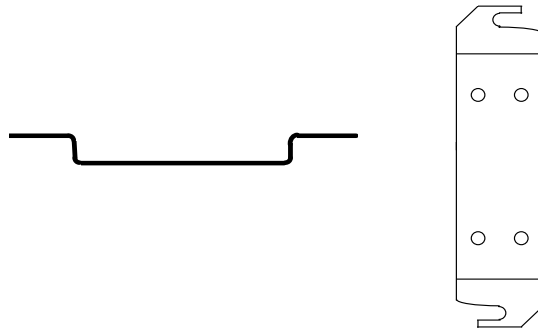

Figure 3-13
- i. Attach the mounting bracket between the base of the CG-6P lampchanger and CG-181 flasher with four 10-32x1" screws supplied so that the dip in the bracket is down, as shown in Figure 3-13. The wires from the WK-681 wiring kit must pass **under** the bracket. Attach the bracket to 300mm tripod by turning the assembly onto the studs, then tighten wing nuts.